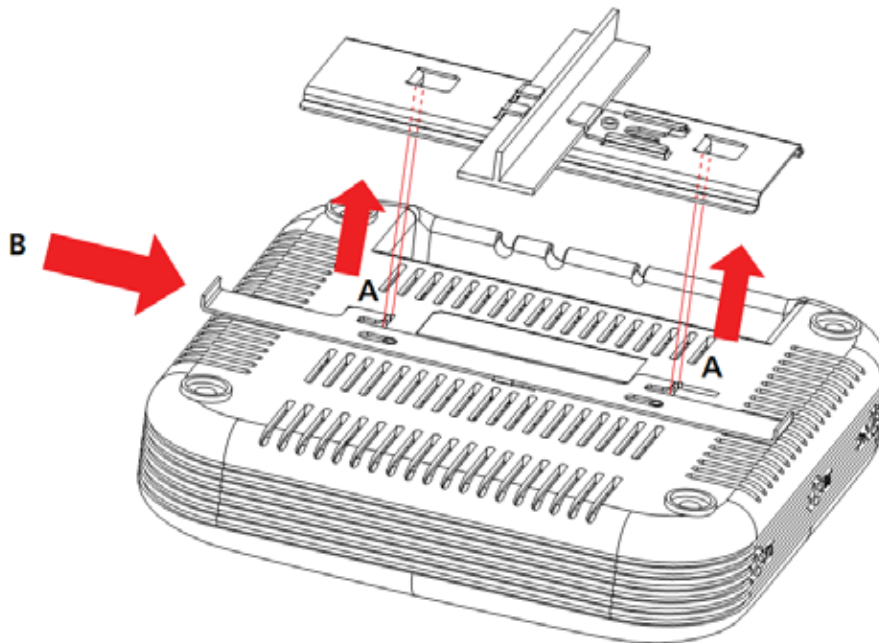

Figure 6. Attaching the AP to the Ceiling Bracket
6	Position the AP so that the two tabs on the ceiling bracket locate in the slots in the AP (A). Push the slider mounted on the AP across until it snaps, locking the AP to the bracket (B) as shown in Figure 6 on page 24 .